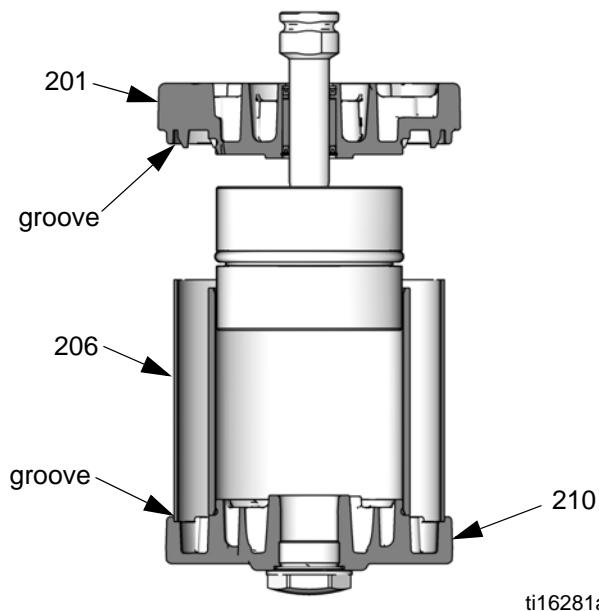

FIG. 21. Align Shield in Grooves on Covers
5. Lubricate and install the o-ring (202*) on the bottom cover (201).
6. Carefully push the threaded end of the rod (218) up through the bottom cover (201).
7. Apply 16G561 adhesive to the threads of the rod (218). Screw the piston (219) onto the rod. Place the piston in a vise with soft jaws and torque to 35-40 ft-lb (47-54 N•m).
8. Lubricate and install the o-ring (204*) on the piston (219).
9. See FIG. 21. Carefully place the bottom cover/piston assembly on the cylinder (205), sliding the piston (219) into the cylinder. The manifold surfaces of the top and bottom covers must align. Be sure the shield (206) is in the groove on both the top and bottom covers.